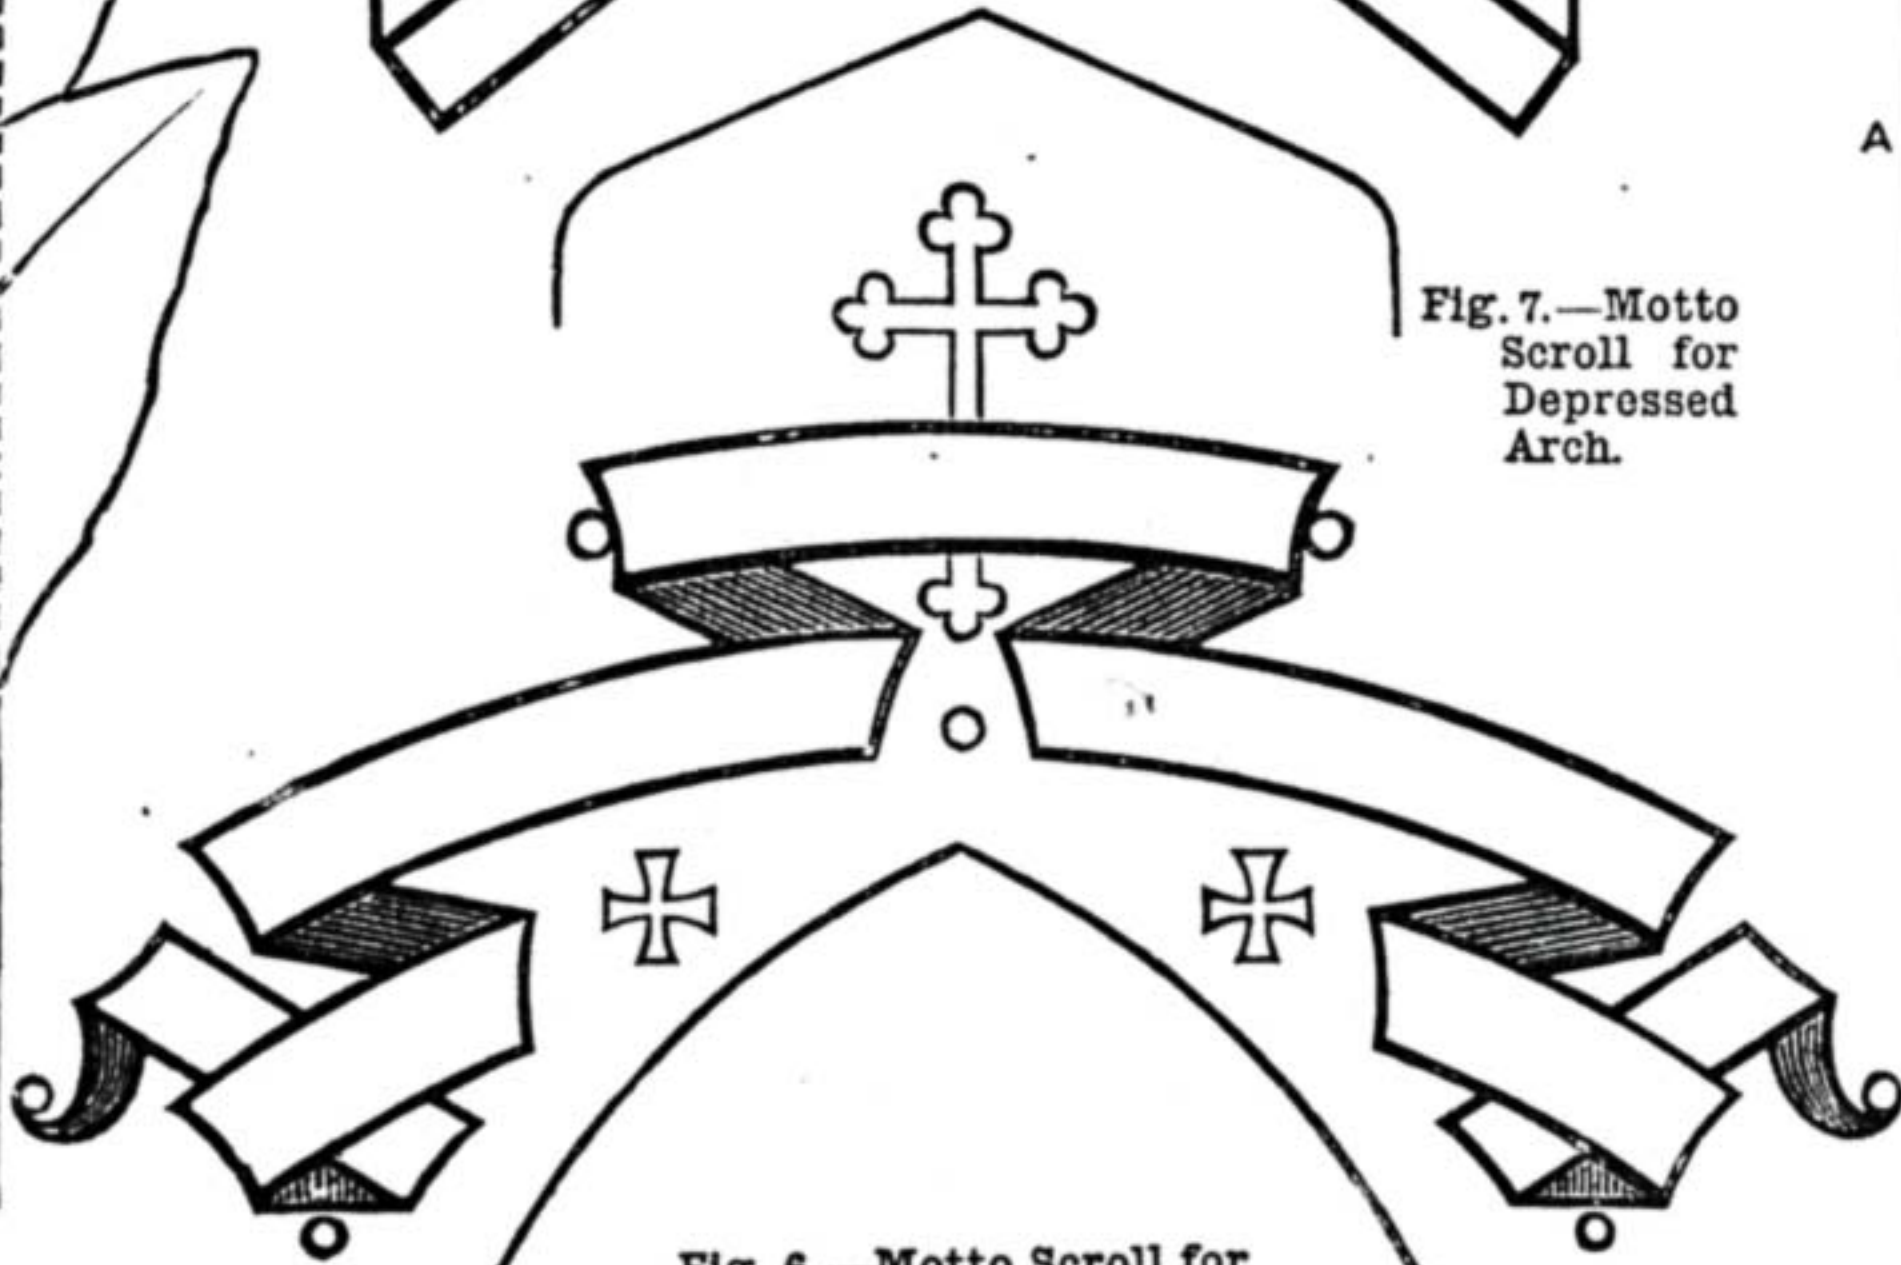

Fig. 6.—Motto Scroll for
Figs. 6, 7, and 8 are intended to show how the (paper) scrolls for texts and mottoes may be manipulated so as to fill any desired space. Fig. 6 is made to surmount a pointed arch. The shaded portions—the back of the scroll—are supposed to be of coloured paper, the dark lines and the
Before absolutely leaving the chancel, we may find occasion for making use of one of these dodges. It frequently happens that the chancel arch is supported on pillars attached to the walls, with which we cannot deal as with ordinary *detached* pillars. Over the dripstone (if there is one) of the chancel arch on the nave side we shall fix a festoon, and over this will probably be a text (see Figs. 6 and 8). On the capital will be a wreath of evergreens, but this cannot be fixed by a wire surrounding it as if it were a detached cap, yet we shall probably have to fix it without using nails. To do this, we must get a wooden hoop of suitable size, cut an opening in it, and bind our wreath of evergreens upon the hoop. The spring of the hoop will hold it firmly, and other places will be found where this use of a cut hoop will come in handy. In the angle formed below the cap by the shaft of the pillar a "rat's tail" of festoon, say a quarter of the height of the shaft, might be made to hang down.
Fig. 1.—Mode of centring and fixing Grindstone—F, Flat filed for Carrier; S, Stone; SO, Solder. Fig. 2.—Mode of centring Saw—S, Saw. Fig. 3.—Mode of lining Hole in Stone with Solder—R, Indianrubber Ring; S, Stone. Fig. 4.—Tool-holder in Elevation (A) and Plan (B)—C, Slips between the two Strips of Wood that form Top and Bottom of Holder. Fig. 5.—Side View of Tool-holder (B), holding Tool (T), and resting on Slip of Hardwood (A) in front of Grindstone (G). Fig. 6.—Elevation of Tool-holder for Gouges.